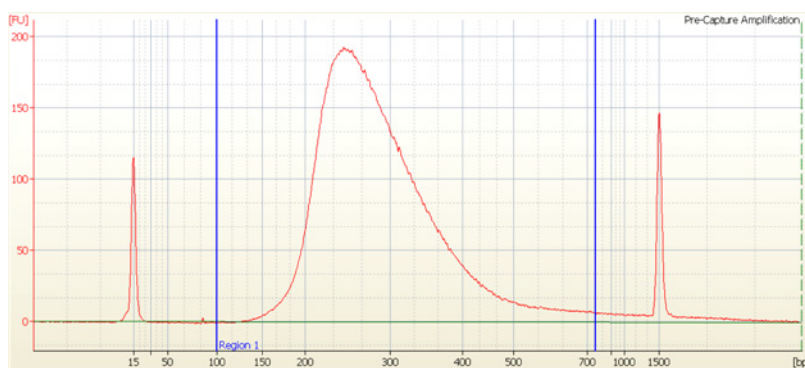

Figure 8 Analysis of amplified library DNA using a DNA 1000 assay.
- 6 Verify that the electropherogram shows the peak of DNA fragment size positioned between 225 to 275 bp. A sample electropherogram is shown in Figure 8.